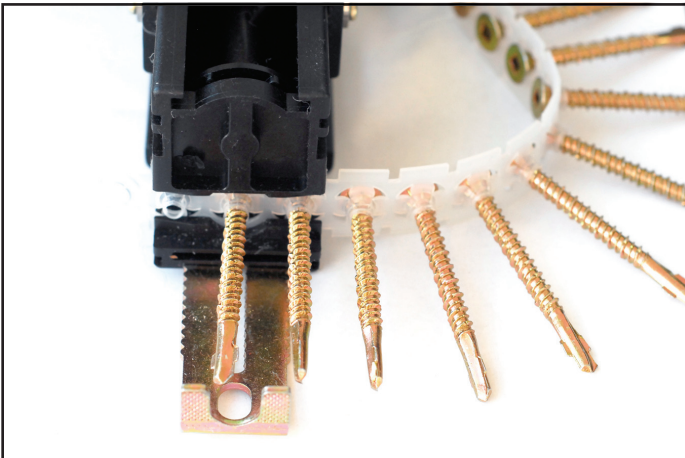

Figure 1
3. Insert a strip of screws into the feed track. Pull it through and insert the front into the index module until the first screw is in driving position in the center of the nose piece. See **Figure 1**.